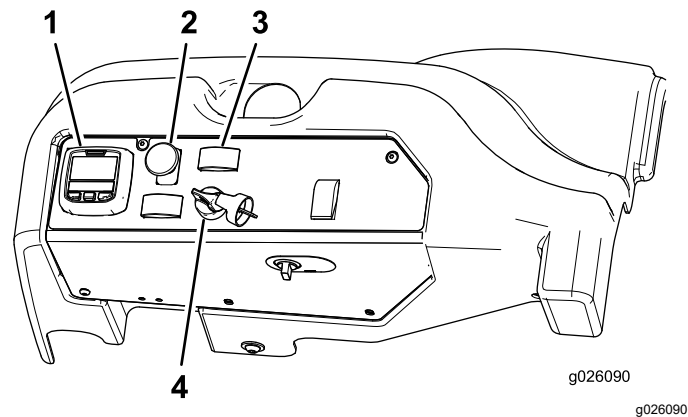

Figure 23
4. Move the power-takeoff (PTO) switch to the OFF position (Figure 23).